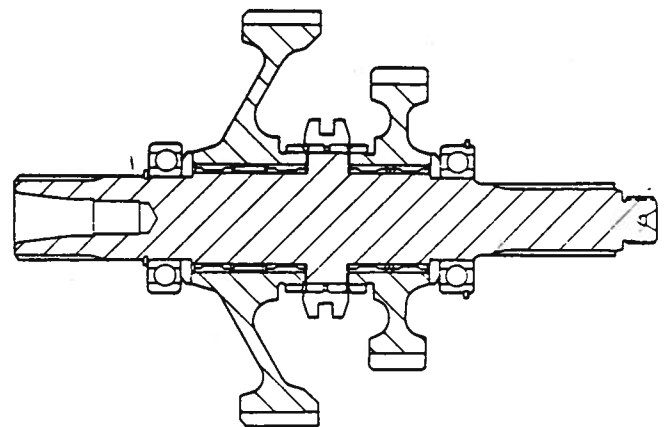

Figure 8-6. Output Shaft Assembly
i. Assemble the output shaft assembly (see figure 8-6) by installing the range shift hub (64, figure 5-40), low gear bearings (69 and 71), and bearing spacer (70) on shaft and bushing assembly (72). Position low range gear (68) on bearings and spacer. Use caution as not to damage bearings.